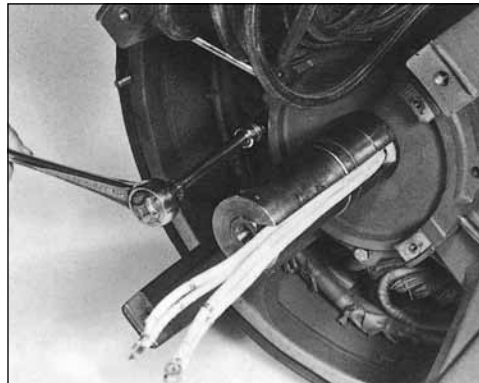

Figure 6-21
2. a. For single bearing generators, remove the four capscrews holding the bearing caps to the front end bracket (figure 6-21). Remove the outer cap (figure 6-22).
- b. For two-bearing generators, remove the drive coupling or sheave and key from the shaft extension. Remove the four capscrews holding the bearing lock to the drive end bracket (figure 6-23). Remove the four capscrews holding the bearing caps to the front end bracket (figure 6-21). Remove the outer cap (figure 6-22).